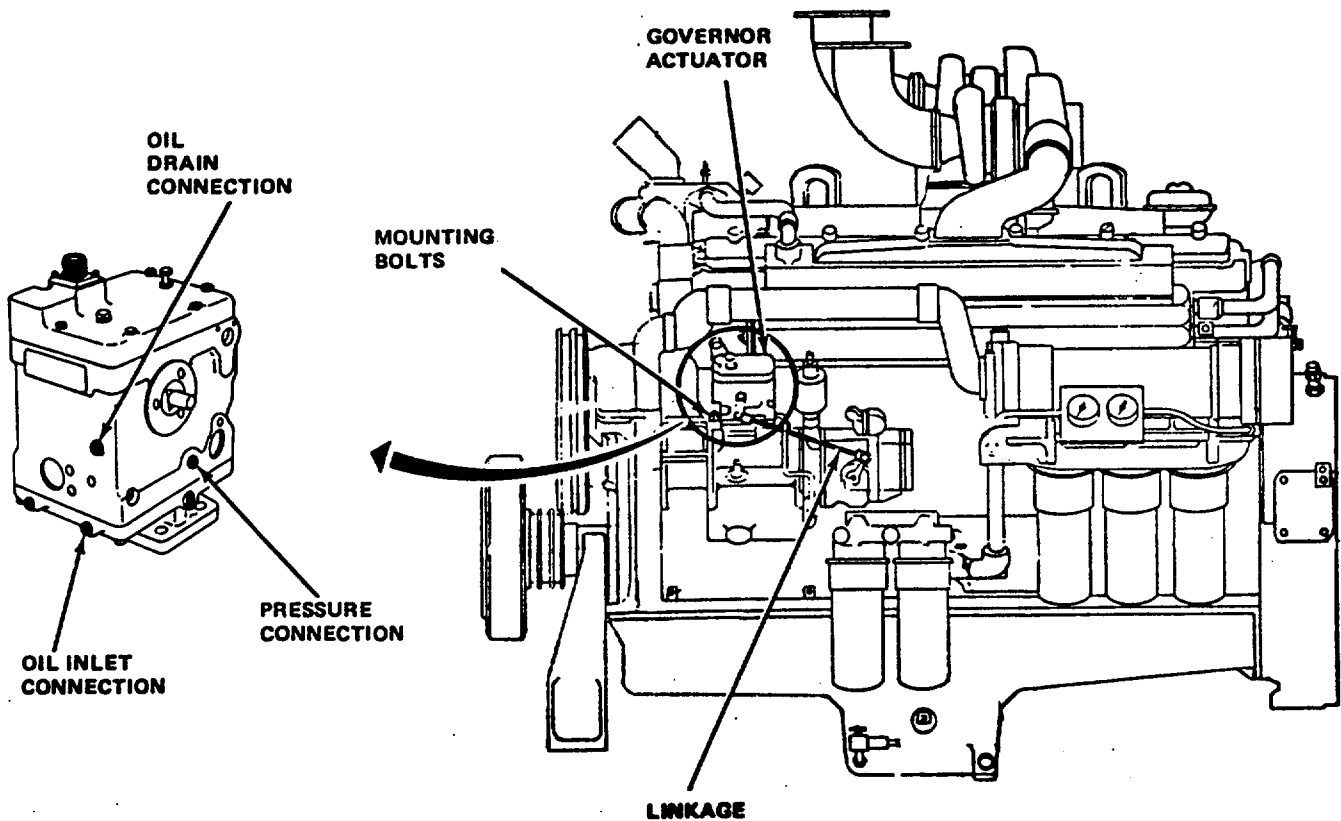

Figure 12-4. Governor/Actuator Mounting on Engine and Actuator Test Connections
- (1) Disconnect linkage (figure 12-4) on governor/actuator.
- (2) Disconnect electrical connector on governor/actuator.
- (3) Disconnect oil line to the governor/actuator.
- (4) Remove bolts securing unit to sump. Pull straight up, and remove unit and gasket.
- b. Replacement. Reinstall or replace unit as follows (see figure 12-4):
(1) Using a new gasket between the base of the unit and the mounting pad, mount the governor/actuator unit on the mounting pad. Square the unit with the engine linkage and in line with the drive. Fit the splined drive shaft into the drive with a free, slip fit; no tightness is permitted. Set the unit on the mounting pad of its own weight without any force being applied. Also, make allowance for unrestricted oil flow drainage through the drive shaft bore and annulus within the base mounting